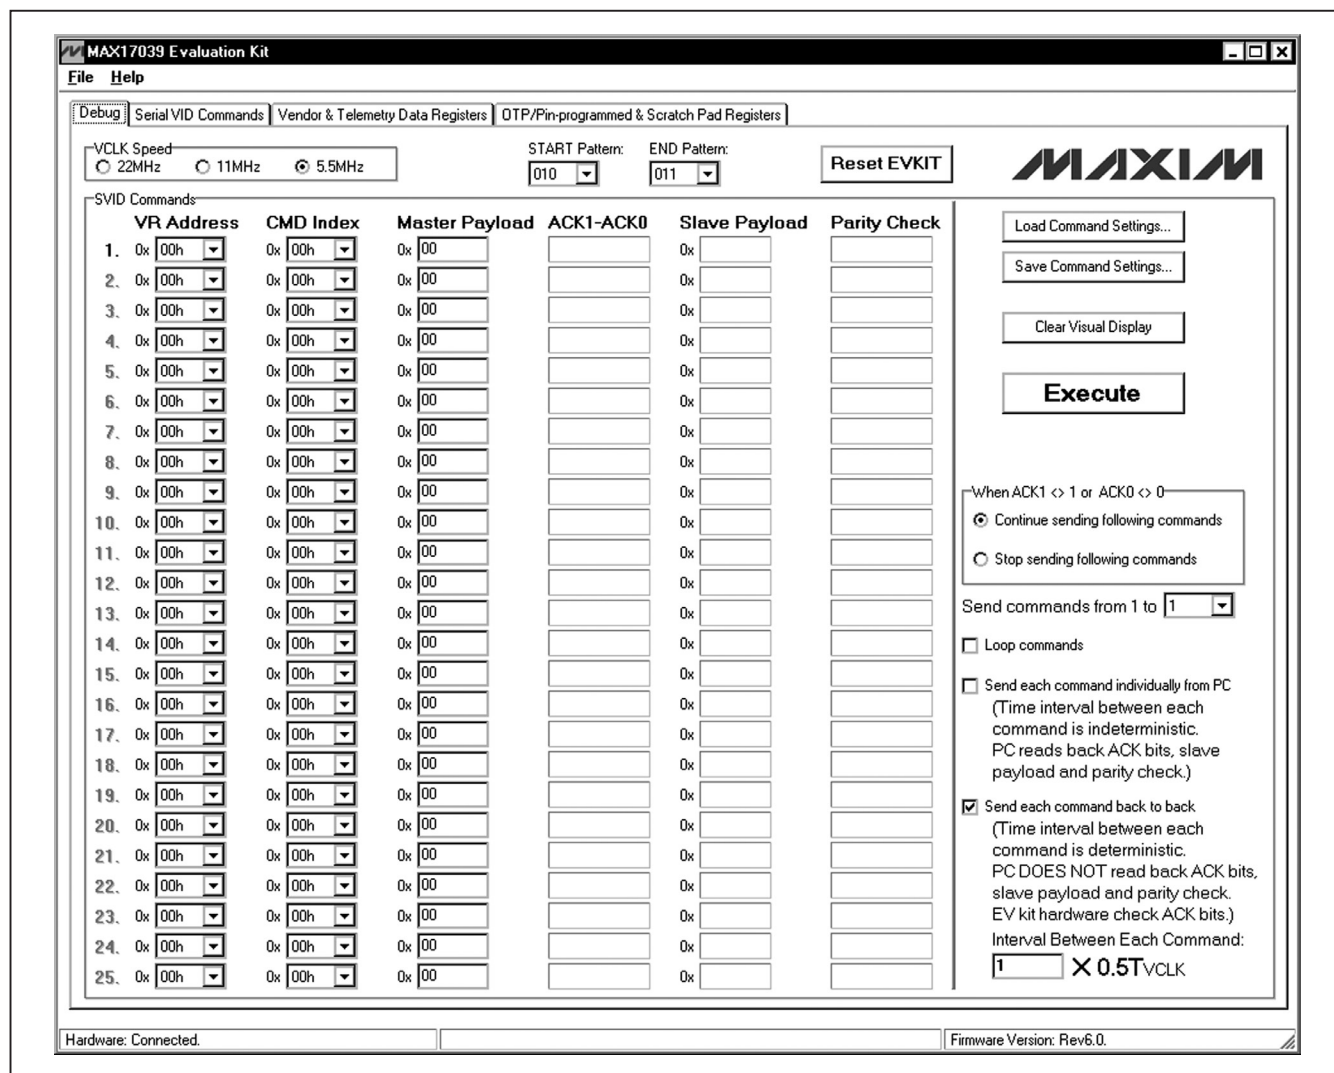

Figure 1. MAX17039 Evaluation Kit Software (Debug Tab)
- 7) Start the EV kit software by opening its icon in the **Start | Programs** menu. The EV kit software main window should appear, as shown in Figure 1. Verify that the **Hardware: Connected** message is displayed in the bottom-left status bar.
The **Debug** tab sheet (Figure 1) has the most complete tools to evaluate the MAX17039. The controls include SVID interface clock-speed selection, protocol selection, and start and end pattern selection.